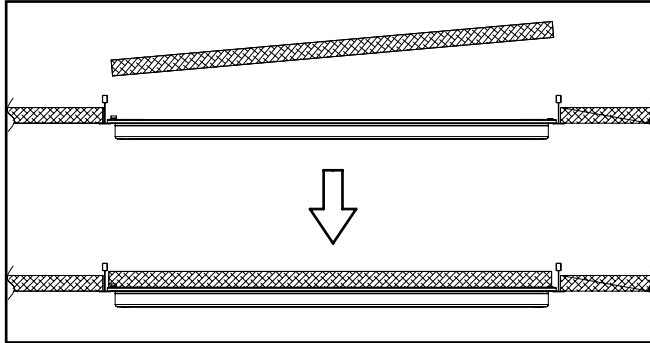

Figure 7.
- Place tile back above light fixture. See Figure 7.